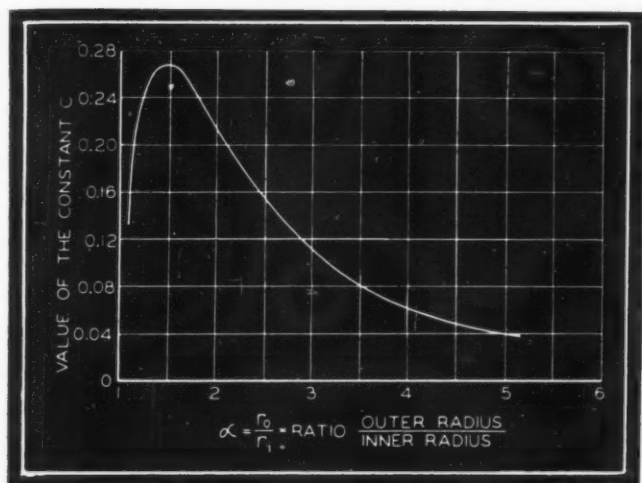

Fig. 12—Deflection constant  $C$  for radially tapered disk springs
- $K$  } = outer radius and inner radius and may be read from the curves of Figs. 12 and 11 respectively